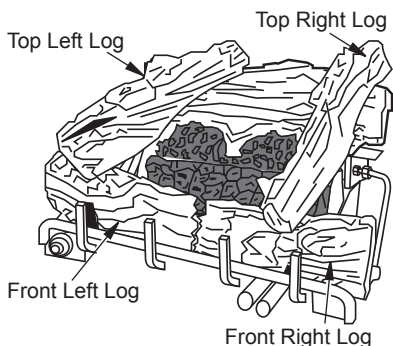

Figure 25 - Installing Logs
- Place top left log as shown in Figure 25, page 19. The bottom of the log is shaped to fit into the recessed areas of the front left log and the rear log. The recessed areas are painted yellow.
- Place top right log as shown in Figure 25, page 19. The bottom of the log is shaped